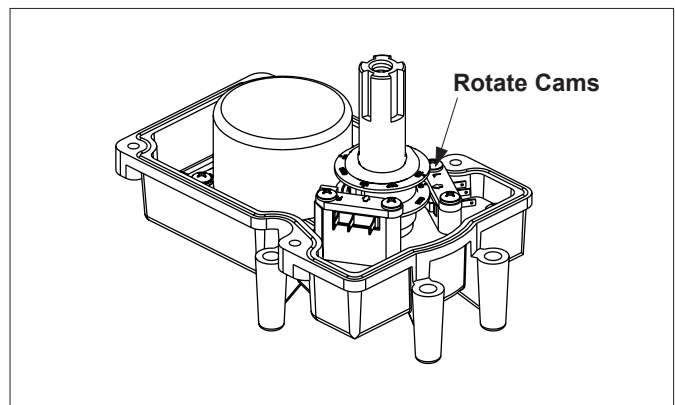

Figure 21. JVA Cam Adjustment
6. To set the cams, rotate the cam(s) until the arrow mark on the cam(s) align with the microswitch actuator (see Figure 21).